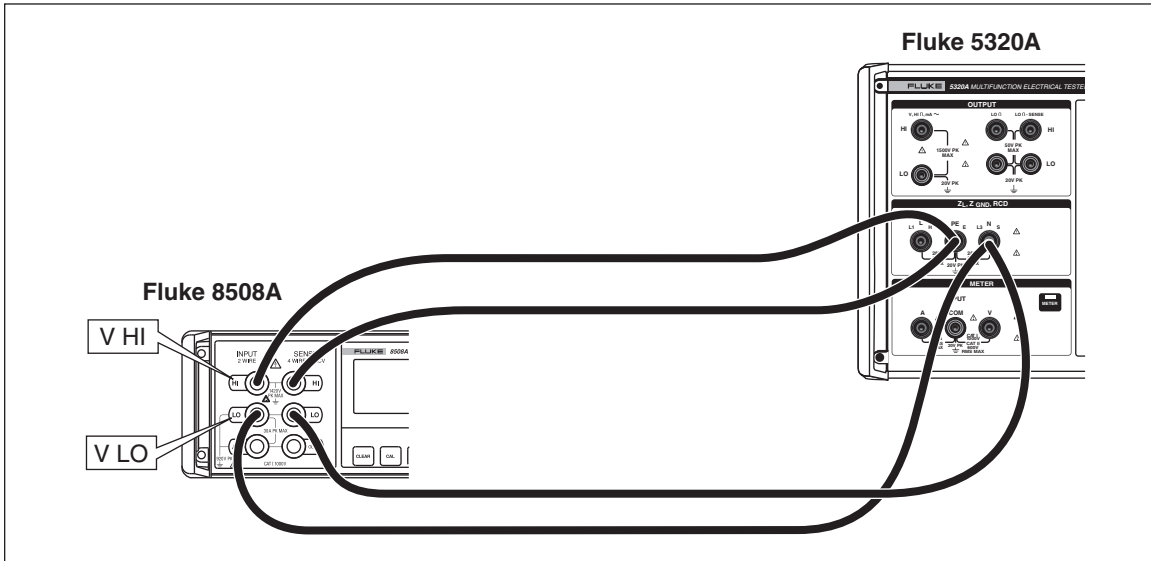

Figure 6-6. High Test Current Verification with Ohmmeter
3. Connect the multimeter to the calibrator as shown in Figure 6-6.